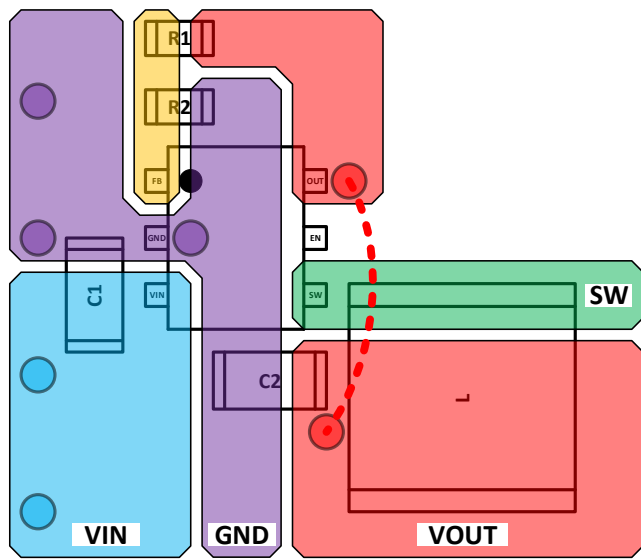

Figure 29. Recommended AP61200/AP61201 PCB Layout
9. See Figure 29 and Figure 30 for more details.